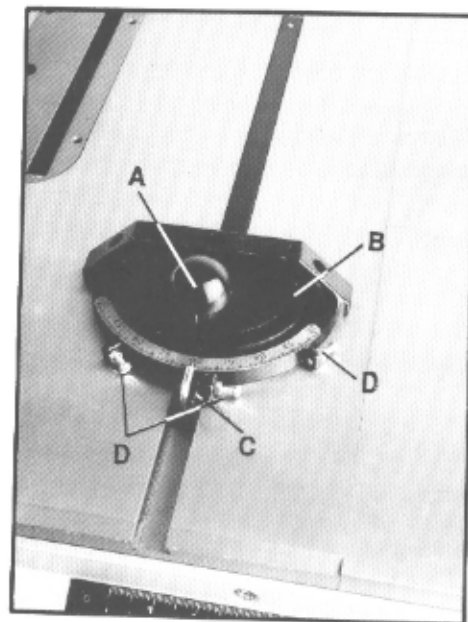

Fig. 9
1. Operate miter gauge by loosening lock knob (A, Fig. 9) and turning miter body (B, Fig. 9) to desired angle. To move gauge beyond index stops of 45° and 90°, flip down stoplink (C, Fig. 9).
2. Adjust index stops by turning one of three adjustment screws (D, Fig. 9).